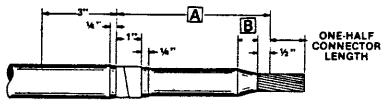

FIGURE 1
PREPARE CABLES (Figure 1)
2. Prepare cable according to standard practice, see Figure 1.